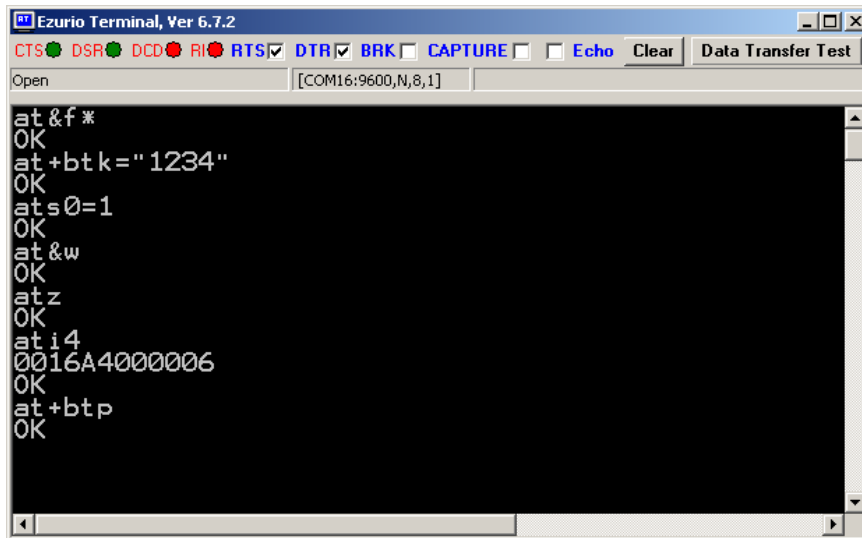

Figure 1: Module Setup
- Send the commands as in Figure 1 to configure the BTM511.